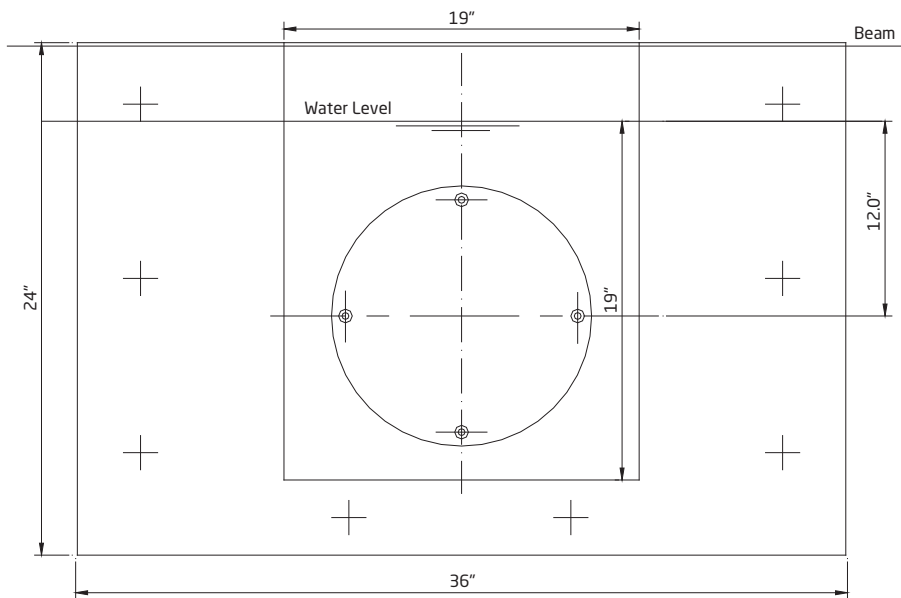

Figure 9
4. Taking the 2' x 3' x 1/4" plywood, set its top edge even to the cap of the pool wall. In some cases a larger piece of plywood maybe needed to cover the hole completely. If plywood covers the hole completely, mark the water line on the plywood. From this line, layout and drill holes in plywood for the four (4) M8 x 30 screws (part #52) for gunite cover, and the eight (8) 1/4" lag screws. (See Figure 9)